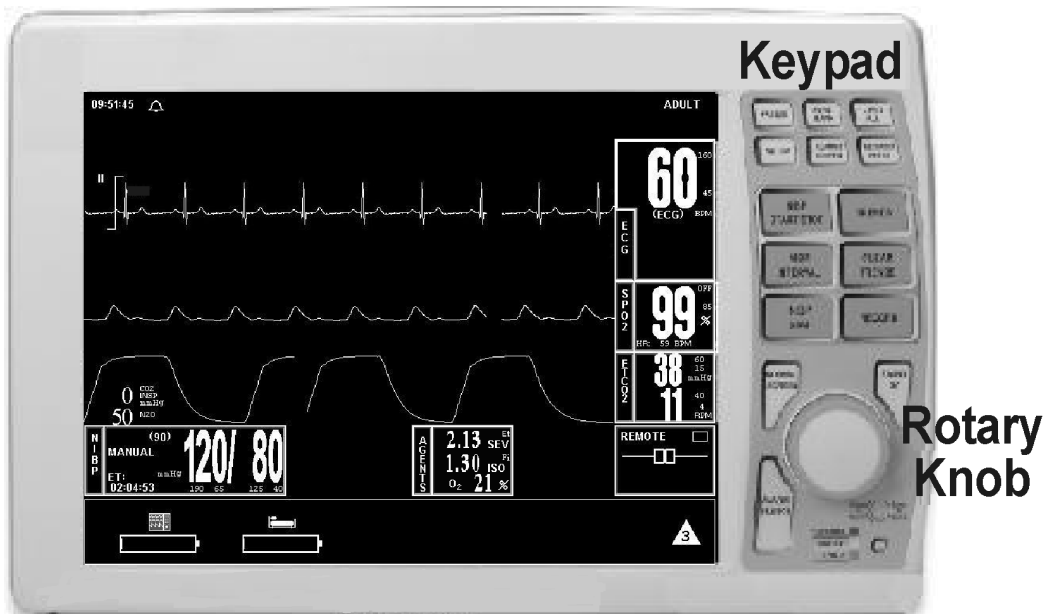

Figure 1-2. The Front Panel
1.4.1 DCU Controls. (See Figure 1-2) The DCU front panel contains all the controls and access for complete patient monitoring. Control is provided by the pushbutton keys and Rotary Knob. The following is a general description of the DCU.